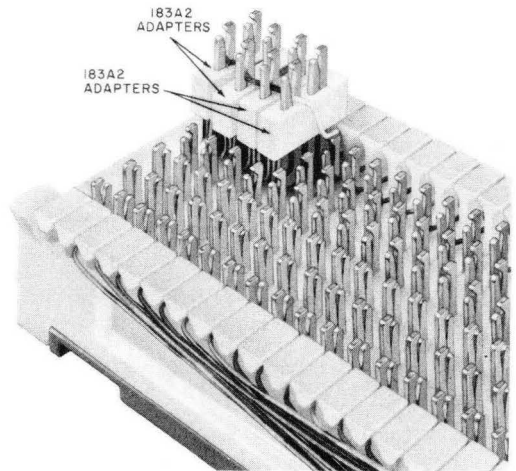

Fig. 14—Typical Installation of 183A2 Adapters on 66B-Type Connecting Block
4.06 No special tools are required to install or remove either adapter. Figure 14 shows the 183A2 adapter installed. Install as follows: